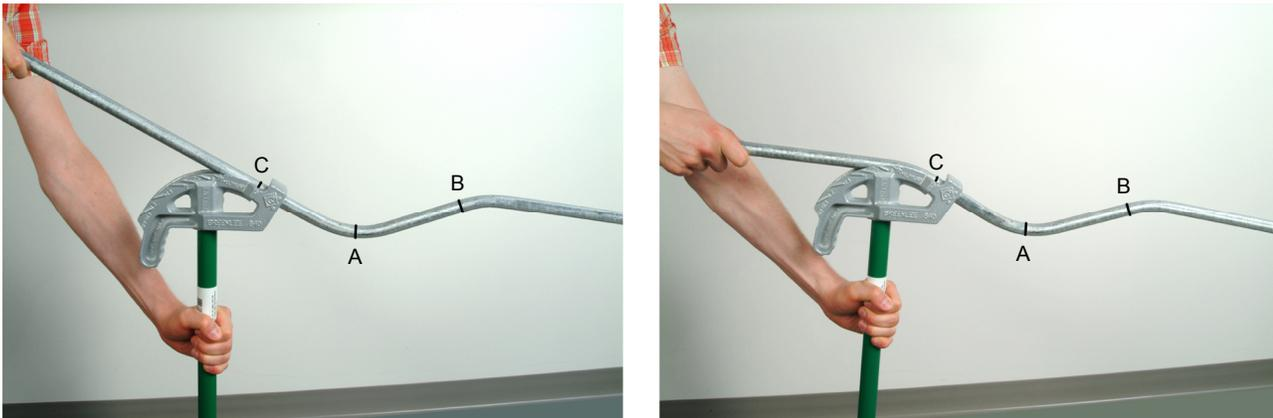

Figure 46. Reverse the conduit in the bender shoe and line up Mark C with the arrow.
- Reverse the conduit in the bender shoe, line up the arrow with Mark C and bend the conduit at this location until you reach a 22 1/2° angle as shown in Figure 46.